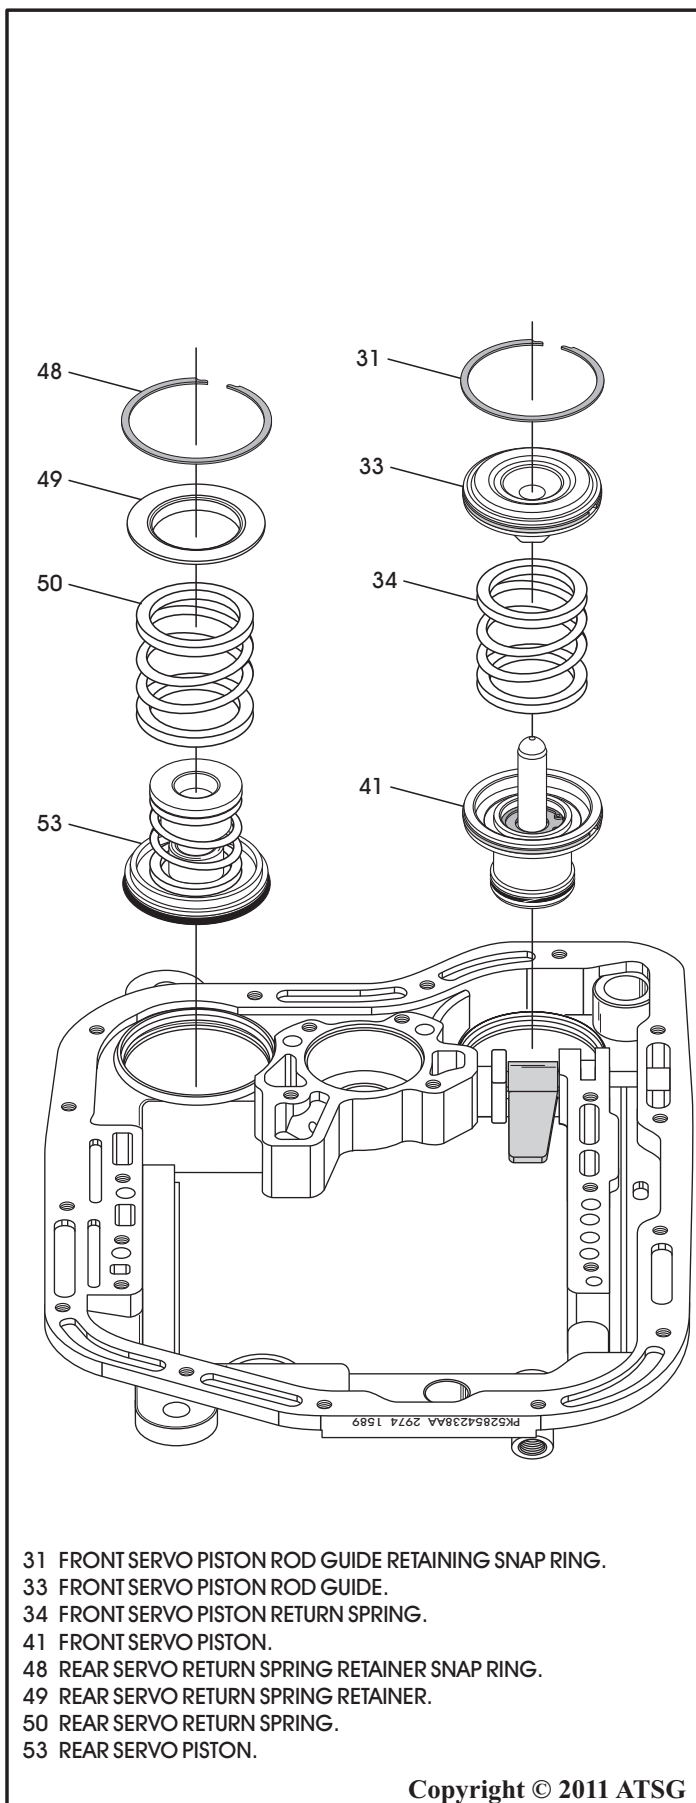

Figure 86
55. Remove the rear servo retaining snap ring, as shown in Figure 86.
56. Remove the spring retainer, return spring and rear servo piston, as shown in Figure 86.
58. Remove front (intermediate) servo components if you have not previously removed them, as shown in Figure 86.